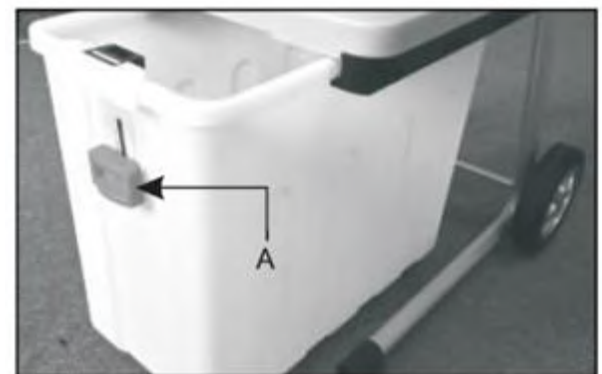

Fig. 2
1. Press down the lock button(A) and then insert the collection box into the undercarriage.(Fig.2)
2. Press the lock button (A) totally upward!
2. Press down the lock button (A) (Fig.2).